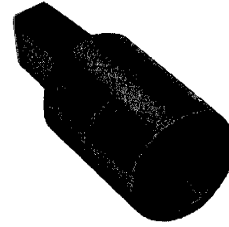

Fig. 24 — P-16E564 Heat Coil Cap
- 6.17 The P-16E564 heat coil cap (red), Fig. 24, is used in place of the black heat coil caps on protected 300-type frames.